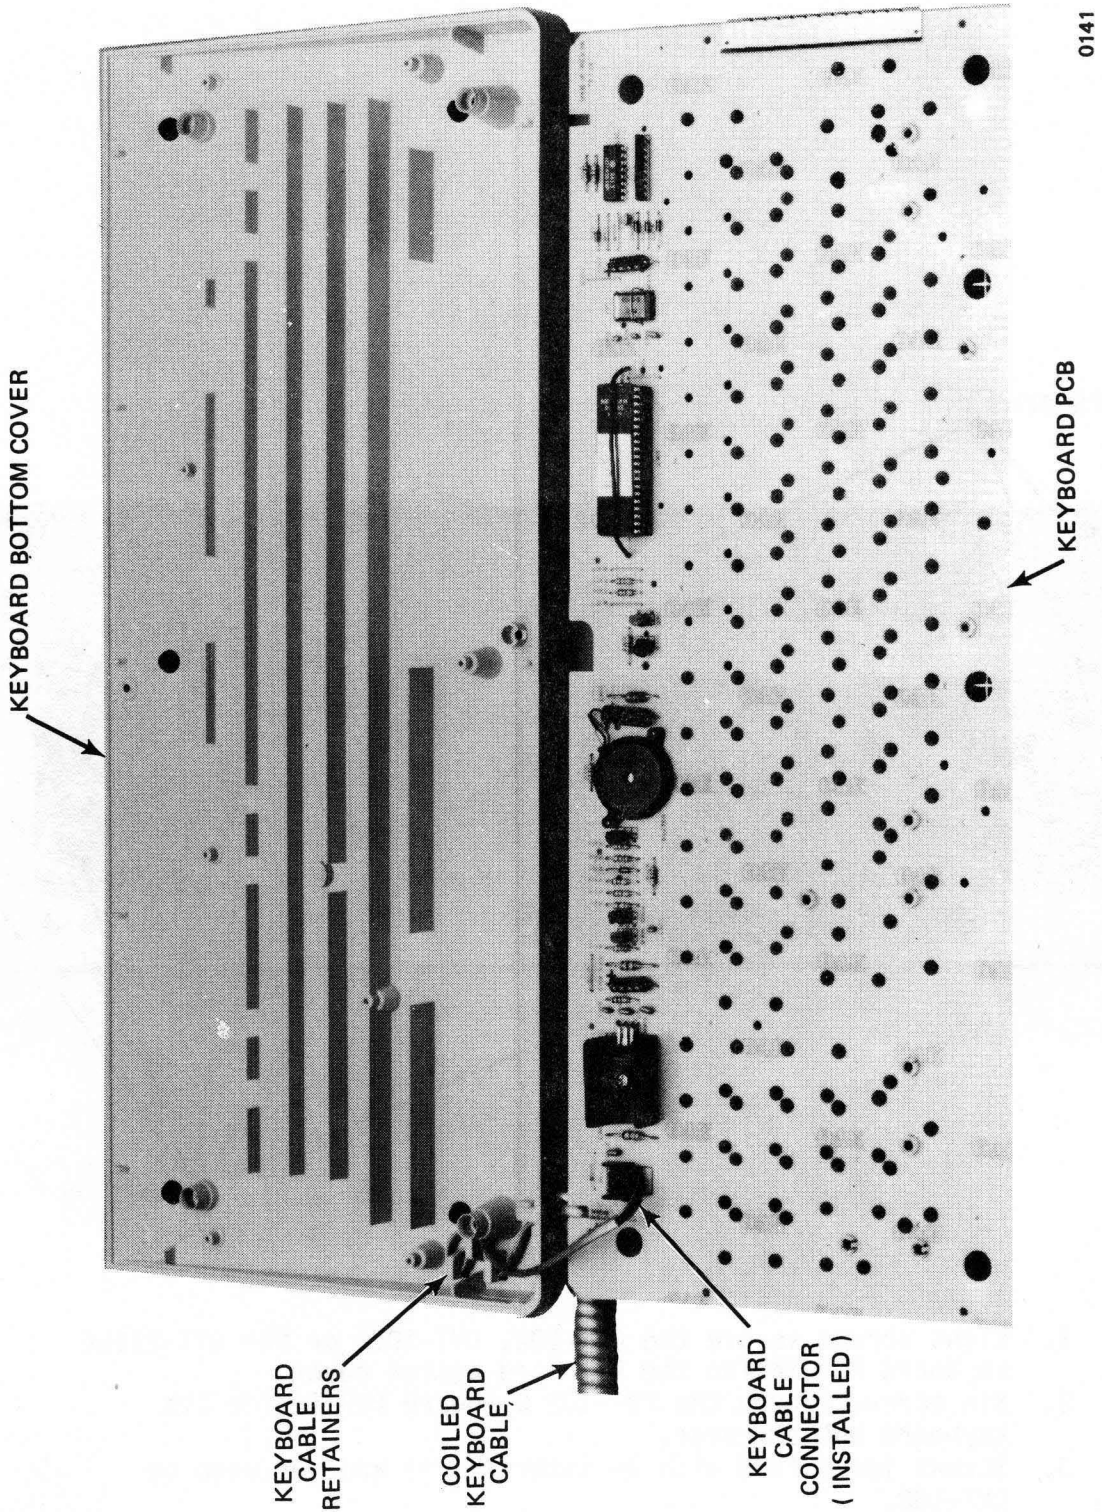

Figure 2-2. Keyboard PCB Removal and Replacement
3. Lift the keyboard PCB up and lay it over the back edge of the bottom cover. Refer to Figure 2-2.
1. Insert the coiled keyboard cable through its access hole in the bottom cover and secure it to its retainers. Be careful not to damage the cable by crimping or overstressing its tensile strength. Connect the keyboard cable connector to the keyboard PCB. Refer to Figure 2-2.